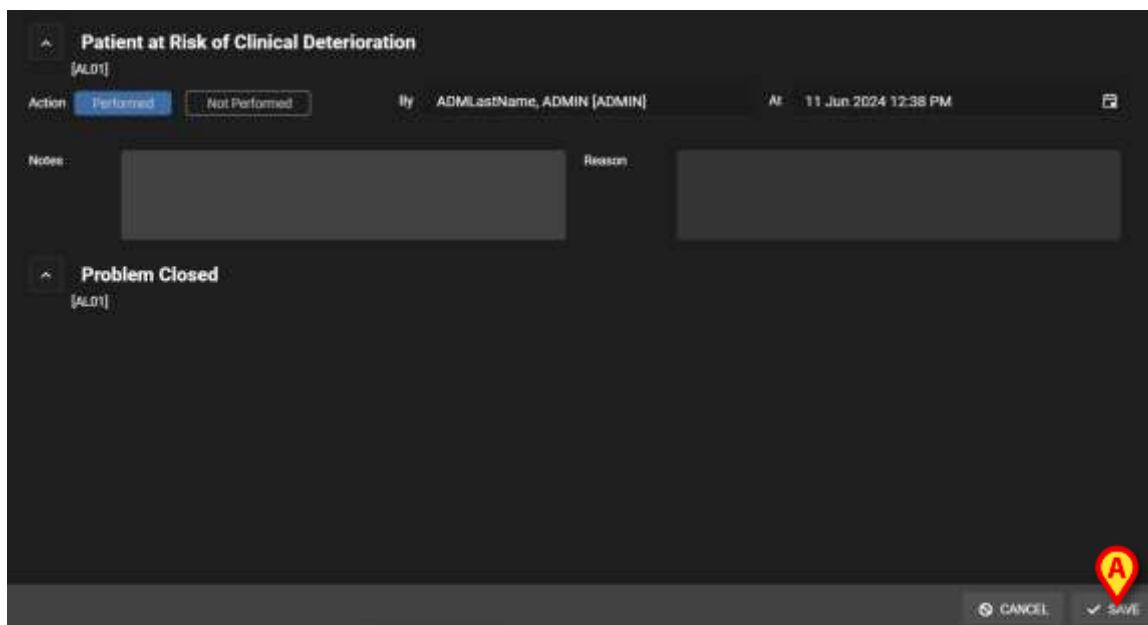

Fig 79
The execution window opens (Fig 79).
- Click **Save** (Fig 79 **A**).